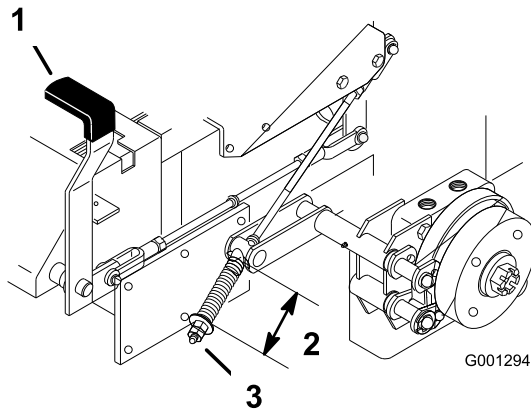

Figure 59
2. Measure the length of the spring. Measurement should be 64 mm (2-1/2 inches) between the washers (Figure 59).
3. If adjustment is necessary, release the parking brake, loosen the jam nut below the spring and adjust the nut directly below the spring (Figure 59). Turn the nut until the correct measurement is obtained. Turn the nut clockwise to shorten spring length and turn counter-clockwise to lengthen the spring.